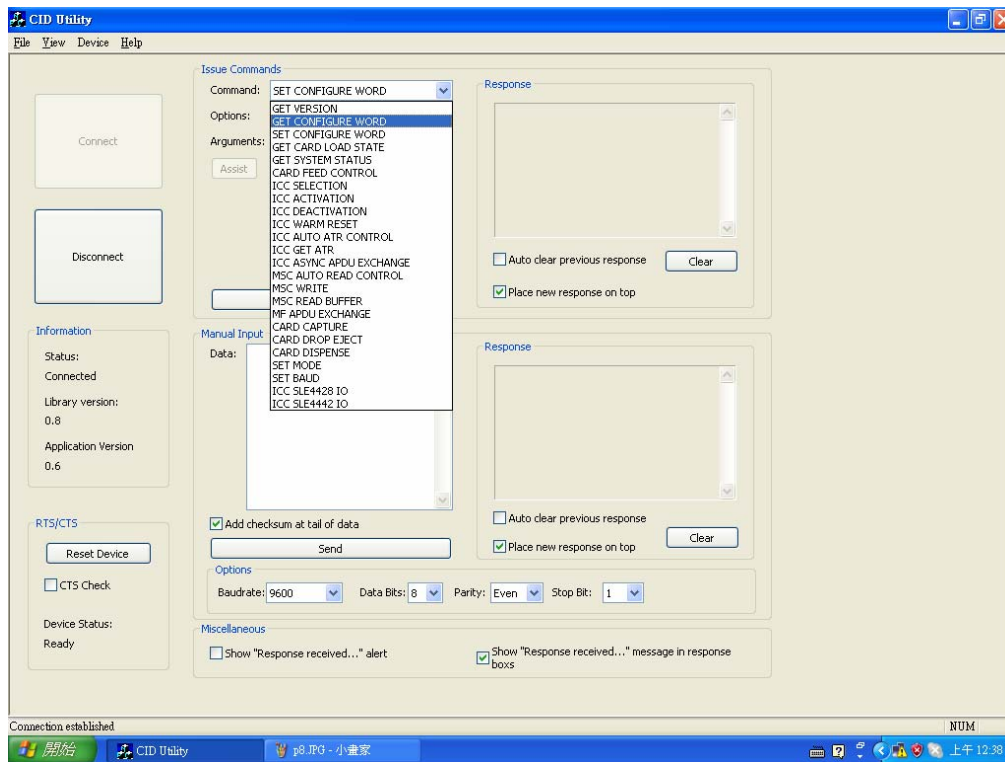
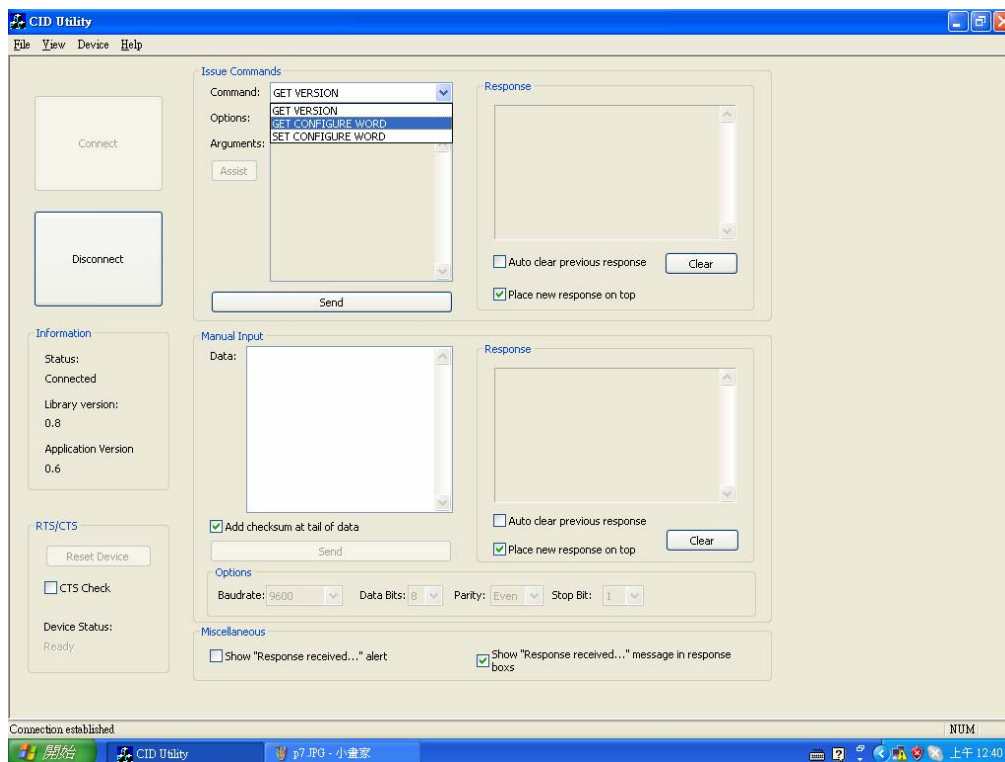

Fig 4
Fig 5
4.3 After enter the selected interface, the commands supported for that mode is listed as Fig 4 and Fig 5, select the command to be executed and press “Send” button, you will get response on the upper right “Response” window. You also can enter command code defined in the programming guide in the “Manual Input” window and get its response on lower right “Response” window. All acceptable command please refer to reader’s programming guide.